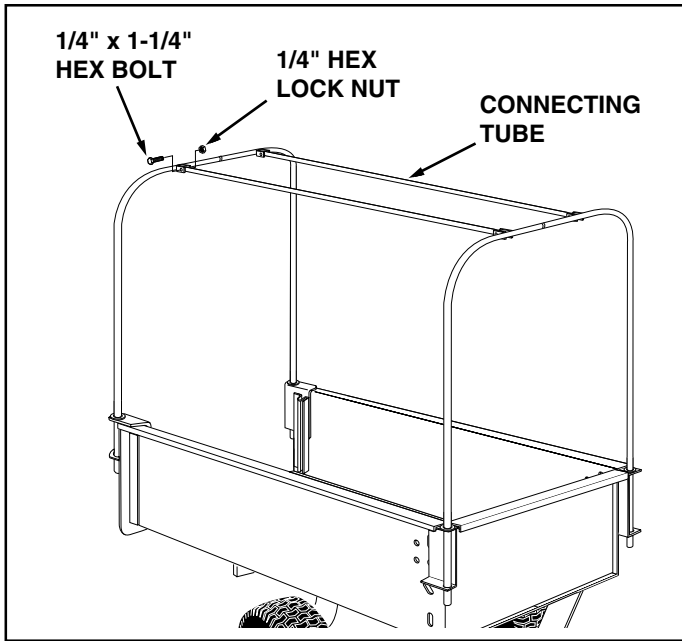

FIGURE 12
26. Assemble the top connecting tubes to the support tubes using four 1/4" x 1-1/4" hex bolts and 1/4" hex lock nuts. **Tighten** only until there is no end play in bolt. Tubing should fold up when removed from cart. See Figure 12.